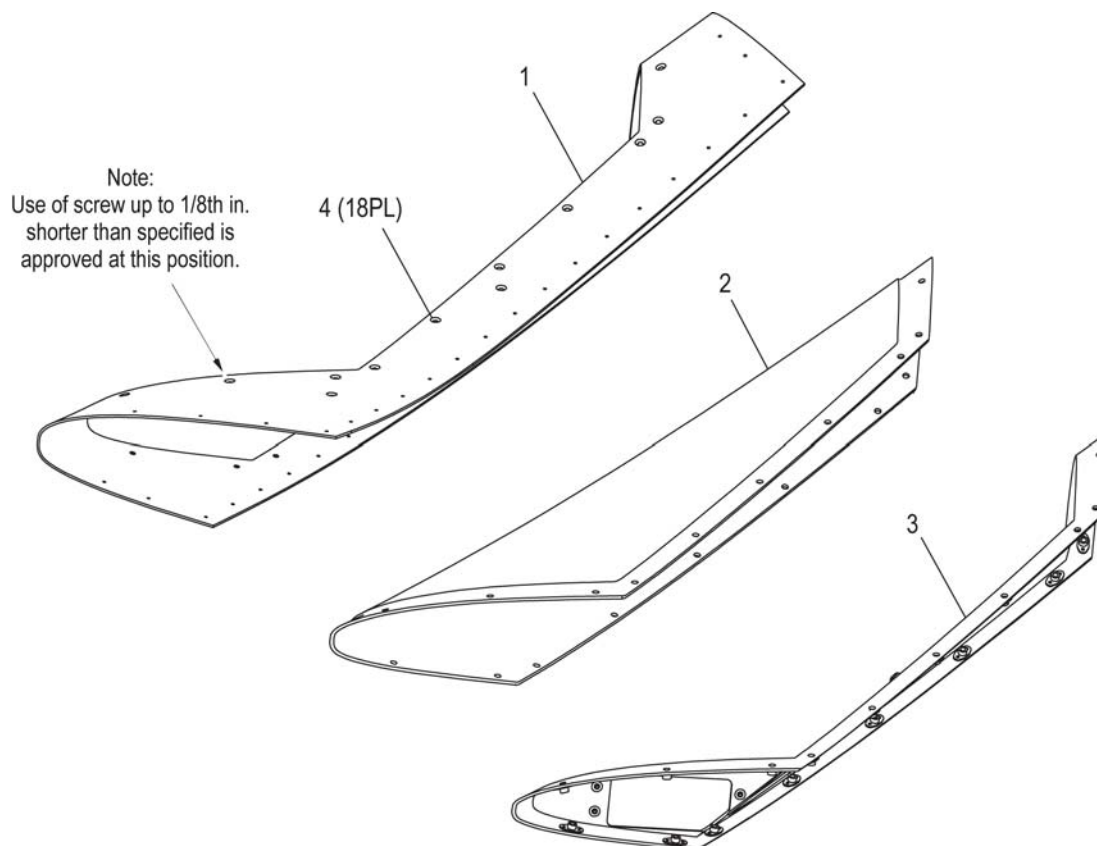

FIGURE 401:
4. Leading Edge Lens Assembly Removal (Refer to Figure 401)
- (1) Remove the 18 screws (4) that attach the leading edge (1) to the lens retaining frame (3).
- (2) Remove the lens retaining frame (3).
- (3) Carefully pry the polycarbonate lens (2) away from the leading edge.
5. **Leading Edge Lens Assembly Installation (Refer to Figure 401)**
CAUTION: DUE TO VARIATIONS IN THE MANUFACTURING PROCESS OF THE LEADING EDGE / LIGHT ASSEMBLY, THE SPECIFIED FASTENER NEAR THE MIDDLE OF THE NAVIGATION LIGHT ASSEMBLY MAY BE TOO LONG. DO NOT FORCE A LONG SCREW INTO THIS HOLE. DAMAGE TO THE NAVIGATION LIGHT ASSEMBLY MAY RESULT. USE OF A SCREW UP TO 1/8 INCH SHORTER IS APPROVED AT THIS POSITION (SEE FIGURE 401).